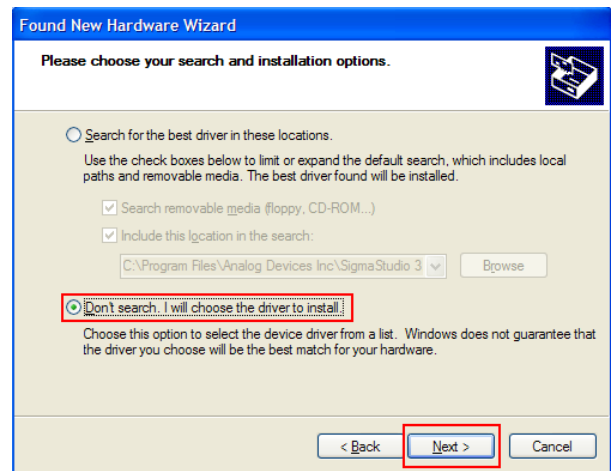

Figure 7. Selection of the Driver to Install
- Select **Don't search. I will choose the driver to install** (see Figure 7), and click **Next**.